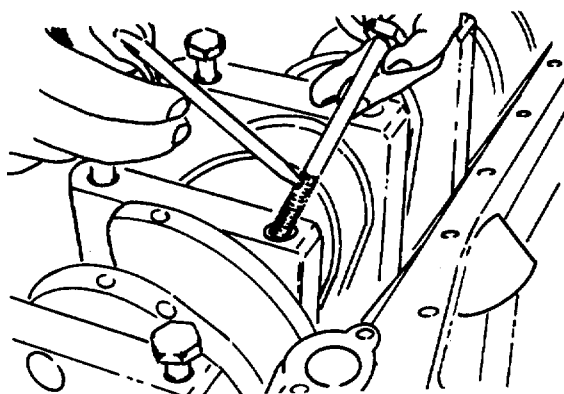

FIGURE 4-74. Lubrication.
- g. Lubricate the main bearing capscrew threads and underside of the head with clean engine oil. (FIGURE 4-74)